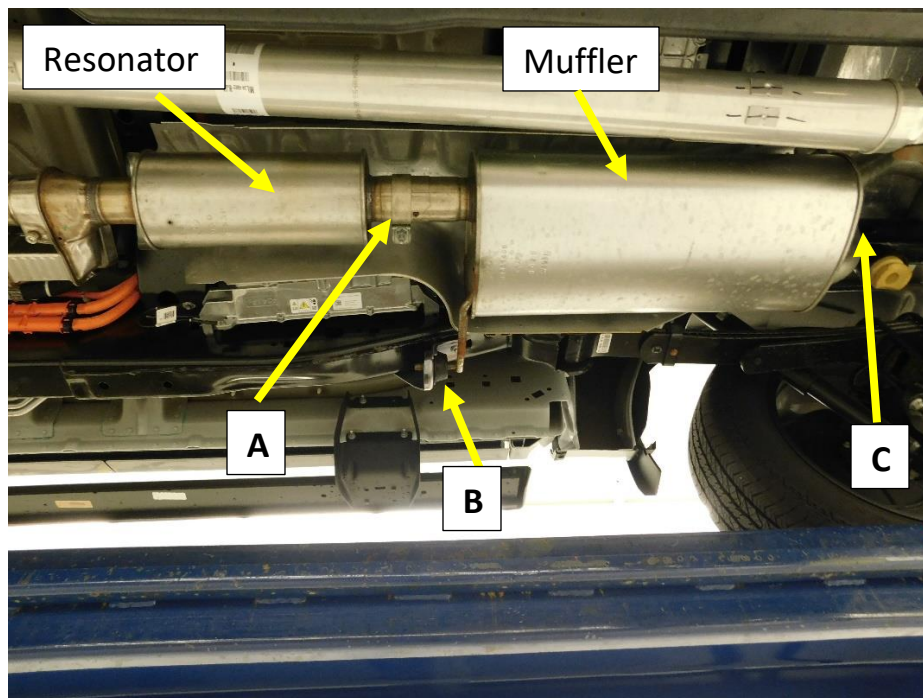

Figure 6
- Loosen the clamp at the slip joint between the muffler and the resonator **(A)**. **Fig. 6**
- Remove the (x3) bolts at the muffler hanger on the frame rail **(B)**. **Fig. 6**
- Remove the bolt from the muffler hanger over the muffler and remove the hanger from the cross brace **(C)**. **Fig. 6**